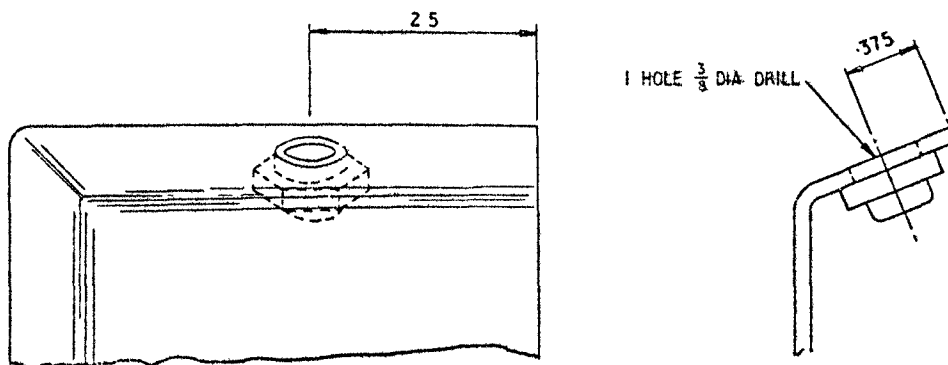

Fig 1 - Location of clinch nut
(1) If the figure 1 has not been struck off the equipment modification record plate, demand stores in accordance with the instruction in para 6.
(2) On receipt of the stores, request the unit responsible for field repair of the equipment to carry out this modification.
- (1) When requested by units, carry out this modification.
- (2) On repair or overhaul if necessary, demand the stores and carry out this modification.
- (3) On completion of this modification strike through with a diagonal line the figure 1 on the modification record label attached to the amplifier r.f. No 7.
- d. On completion of this modification, strike through without obliterating the figure 1 on the modification record label.
- b. Drill a hole in the cover, using a 3/8 in. drill, as shown in Fig 1.
- b. Ensure that figure 1 on the PSR47 modification record plate is struck through with a diagonal line on completion of this modification.
- q. Strike through figure 1 on the modification record plate.